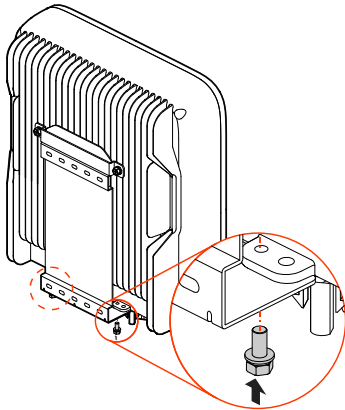
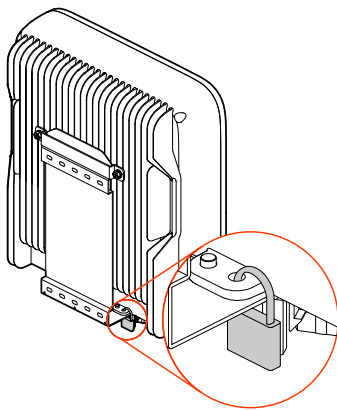

Figure3-12 Fasten the inverter
Figure3-13 Position of lock(The lock customer provided)
- Step 6 Fasten the inverter to the installation holder by 2 stainless steel combination bolt M5*12 (as shown in Figure3-12), and then lock it. The lock position is as shown in Figure3-13.